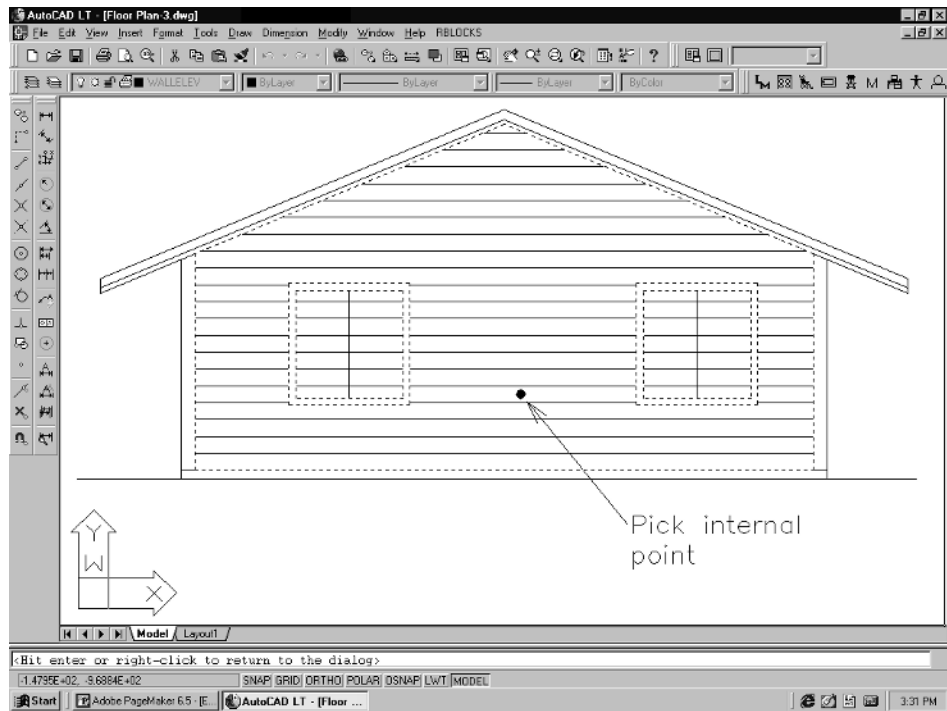

Figure 4-57
7. Pick the **Preview** button to check the hatching. If your elevation is like ours, you will see hatch lines running right through your windows as in Figure 4-57. This is not acceptable, so hit **Enter** to go back to the main Boundary Hatch dialog.